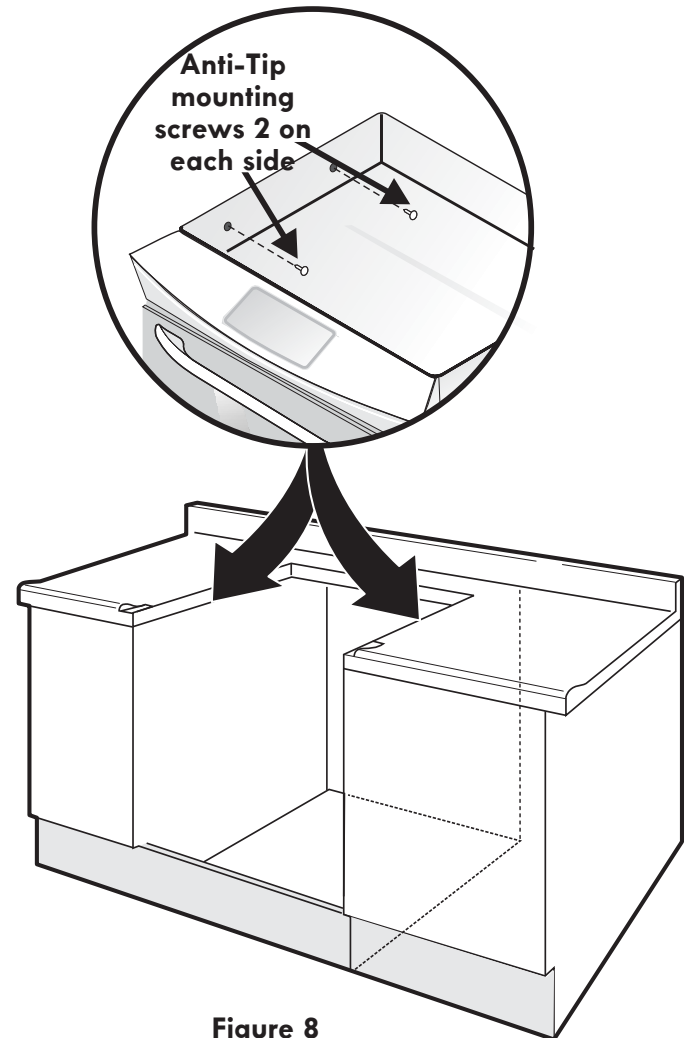

Figure 8
- B. Lift the cooktop and secure range burner box to cabinet with screws supplied to prevent range from tipping (Figure 8).